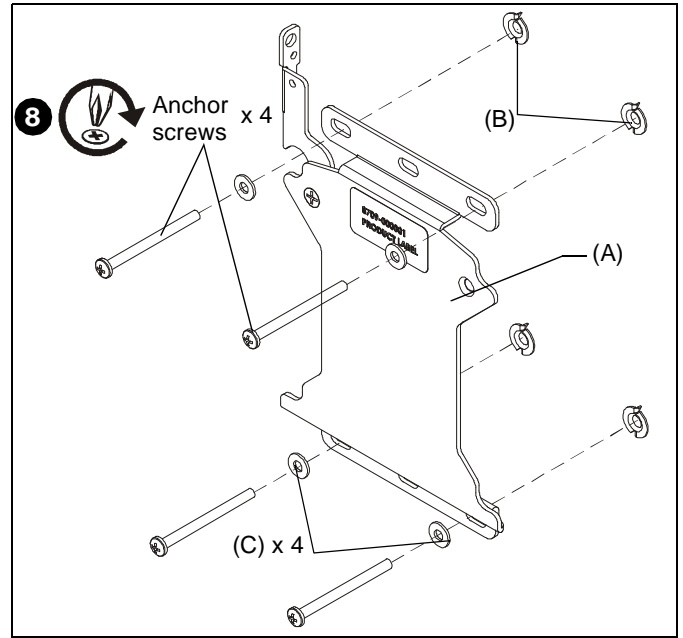

Figure 5
8. Insert anchor screws through washers (C), FSM (A) and install into collapsed anchors (B). Tighten until secure. (See Figure 5)